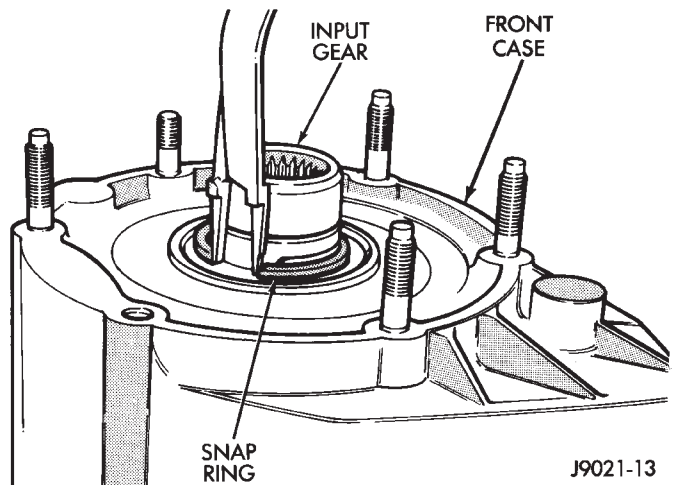

Fig. 24 Removing Input Gear Snap Ring
- (36) Remove input gear snap ring (Fig. 24).